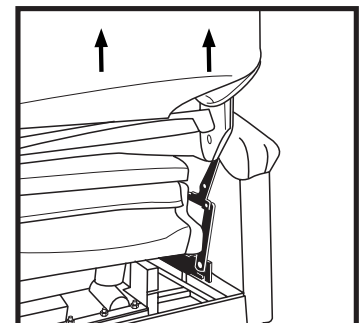

Figure 9. Chair Back Removal
4. Lift the chair back up from the base of the chair. See figure 9.